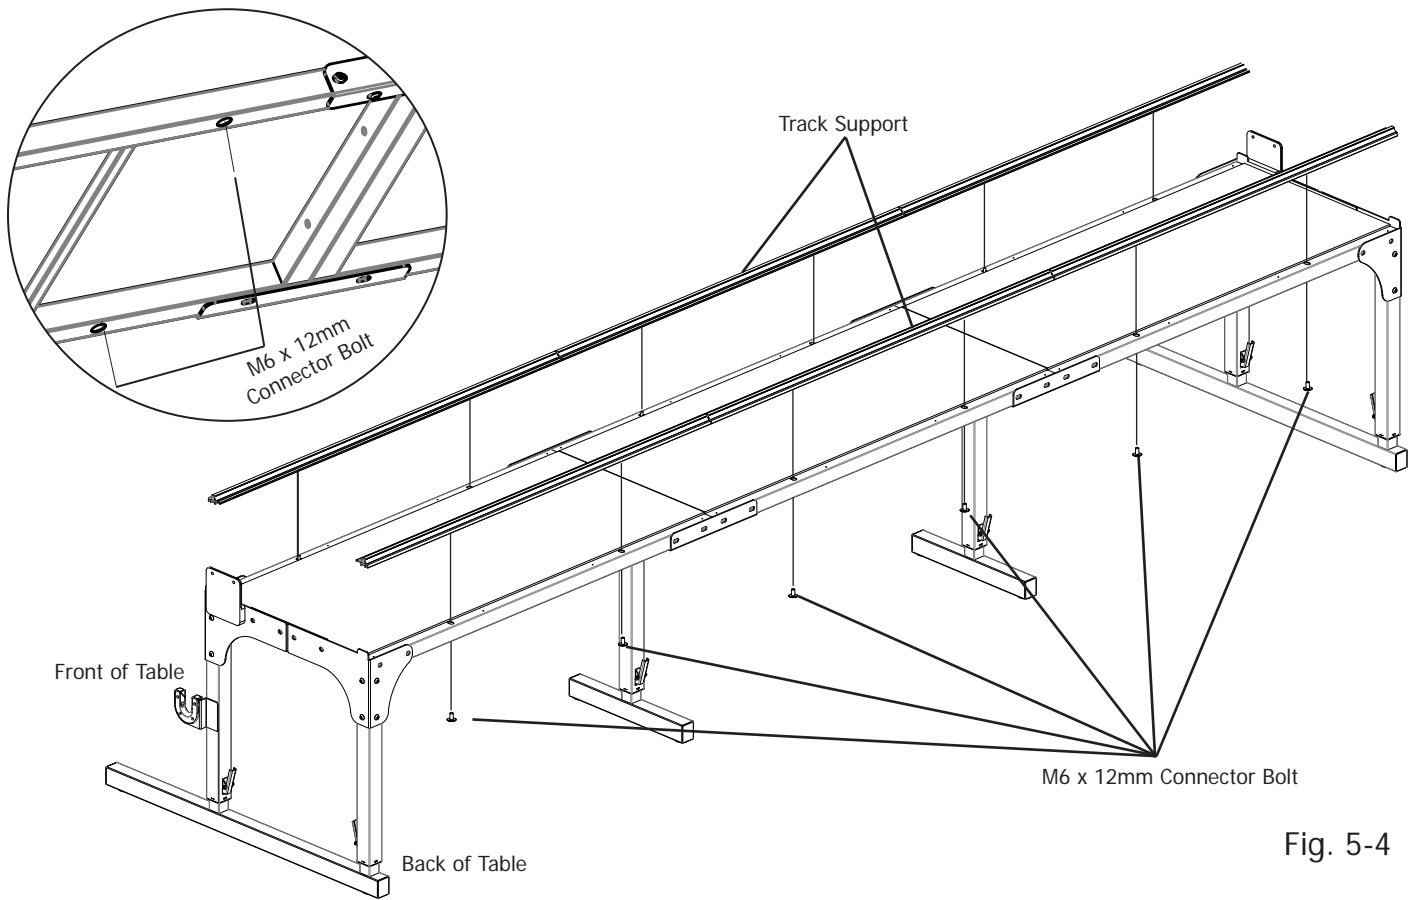

Fig. 5-4
5-8: Attach Tracks. Secure one assembled track to the back of the quilting frame. Line up the track support by holding it tightly against the plastic tabletop as you secure it to the frame, using six (6) M6 x 12mm connector screws, as shown in Fig. 5-4. **Do not tighten screws at**